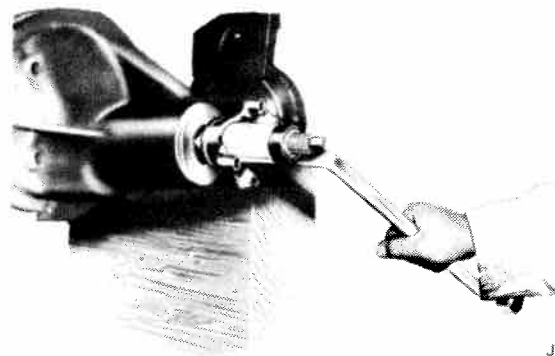

Fig. 10-34 Yoke Installing Tool
(15) Remove sleeve previously installed in place of universal joint yoke and install oil seal with Driver W-147 in all axles except Model 60. Use Driver C-359 for pinion oil seal installation on Model 60.
(16) Install universal joint yoke with Flange Installing Tool W-162 (fig. 10-34). Install pinion washer and nut.
(17) Install axle shafts and differential housing cover.